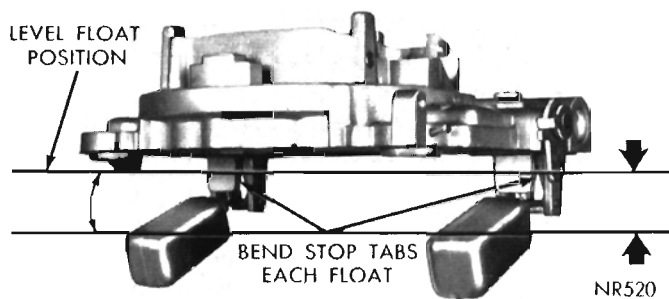

Fig. 10—Checking Float Drop
- (1) With air horn inverted (upside down) place air horn in upright position and measure the distance floats move from inverted to upright position. This measurement should be 1/2 inch. (Fig. 10). Air horn gasket installed. If an adjustment is necessary, bend stop tabs on float levers until correct drop setting has been obtained. Bend tab toward needle seat to lessen drop, or away from seat to increase drop.